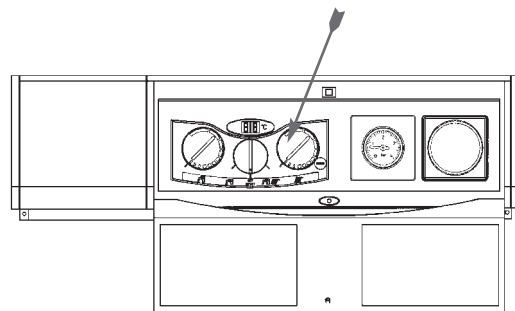

Fig. 5
**3.3** Adjust the central heating temperature control knob (5) to suit the weather, turning clockwise to increase setting, anticlockwise to decrease setting (Fig.5). When the appliance is being used in the central heating mode the temperature indicator (1) indicates the approximate temperature of the central heating water leaving the appliance.